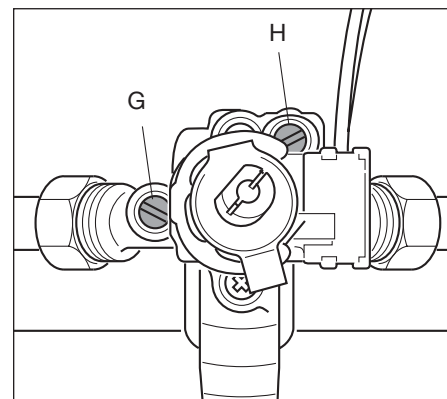

Figure 1.29
- Using a screwdriver turn the screw **H** until the correct setting is obtained (fig. 1.29).
- Using a screwdriver turn the screw **G** until the correct setting is obtained (fig. 1.29).